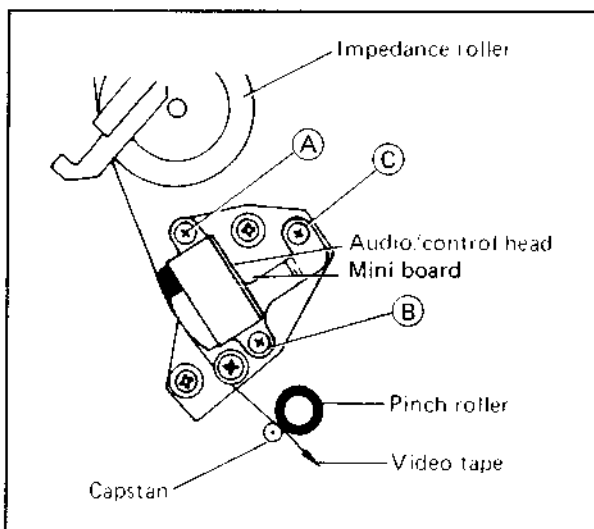

Fig. 4-37
2. Refer to Fig. 4-37. Observe the tape motion at the take-up impedance roller, A/C head, take-up guide pole and capstan shaft. Smooth and evenly flat tape motion is important.